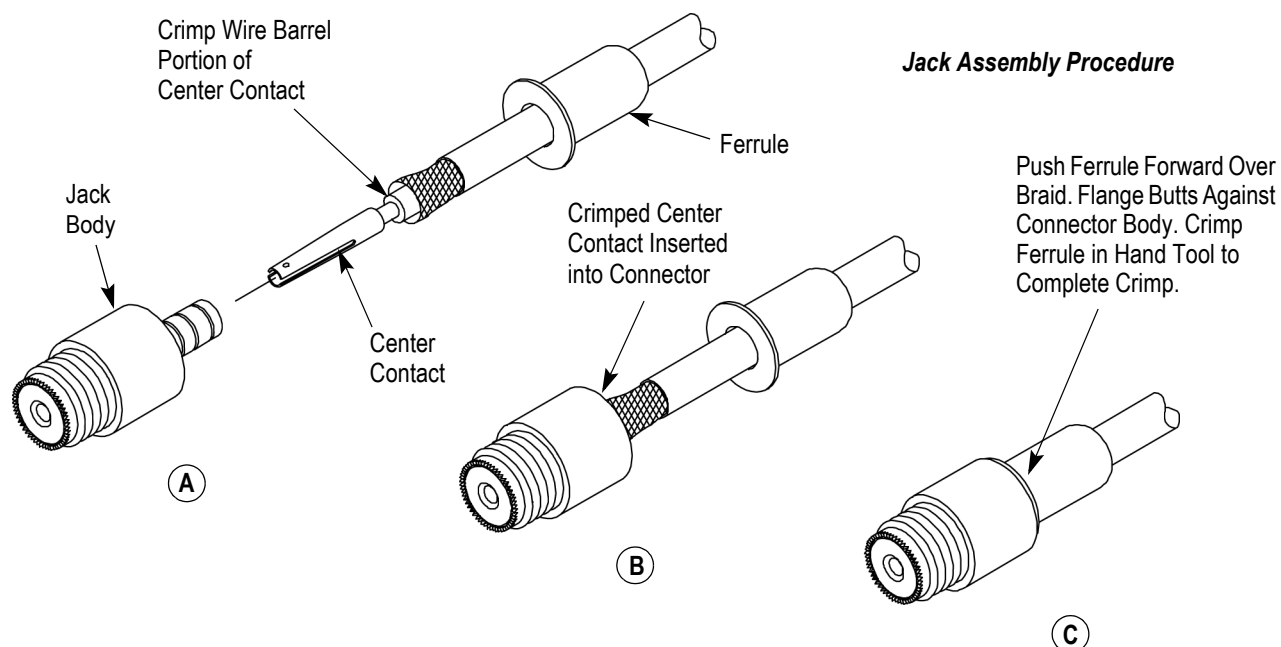

Figure 6
1. Slip the ferrule over the cable as shown in Figure 6, Detail A.
3. Insert stripped cable into the center contact of the jack until cable dielectric butts against the contact. See Figure 6, Detail A.
1. Insert the crimped contact into the jack body until the cable dielectric butts against the dielectric inside the jack body. The braid fits over the support sleeve. See Figure 6, Detail B.
2. Slip the ferrule over the braid, butting the flange against the connector body as shown in Figure 6, Detail C.